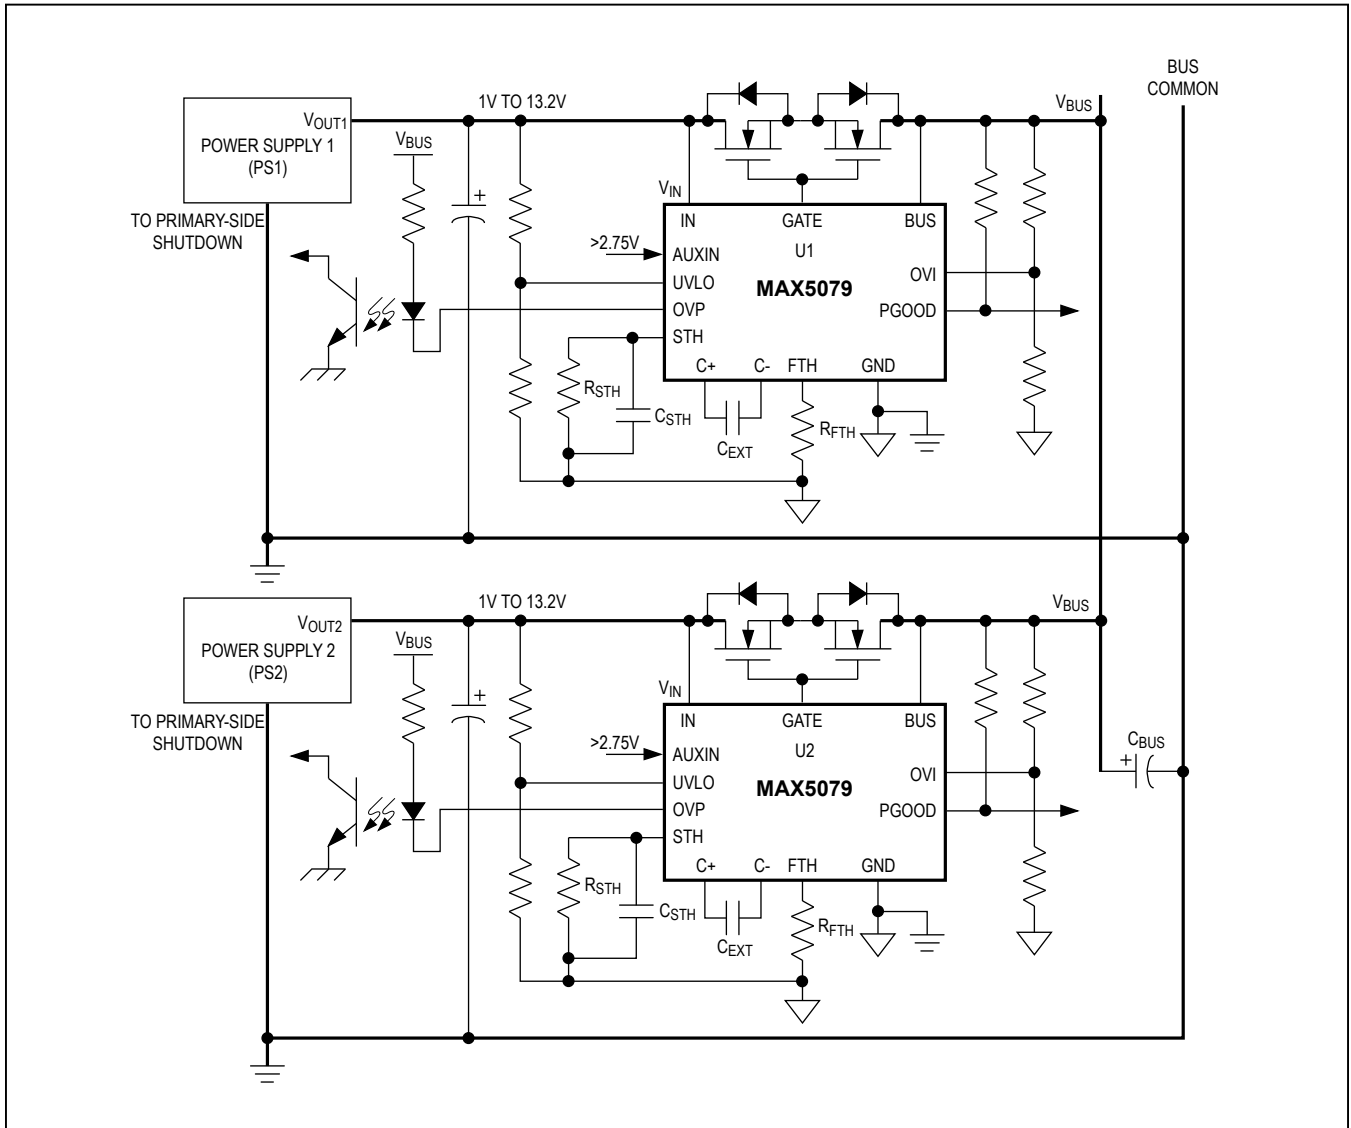

Figure 2. Parallel Supplies with Back-to-Back MOSFET
- Use additional n-channel MOSFETs in series with N1, N2, and N3 in the reverse direction to isolate the power supplies from a shorted bus (Figure 2). When power is turned on with a shorted bus, V_{IN} (U1, U2, U3) increases and V_{UVLO} rises above the UVLO threshold. The MAX5079's GATE outputs start charging the back-to-back ORing MOSFET gates. The short-circuit condition at BUS collapses V_{IN} (U1), V_{IN} (U2), and V_{IN} (U3) sending the MAX5079s into undervoltage lockout. This turns off the MAX5079s entirely, including discharging of the charge-pump storage capacitors. The IN voltages come back up again crossing UVLO (UVLO has 60mV hysteresis). A new cycle starts and the time required to charge the chargepump capacitor and the turn-on time of the device serves as a dead time. However, the dead time may not be enough to reduce the dissipation in the MOSFETs to an acceptable level. We advise in keeping the short-circuit current low and providing hiccup current-limit protection to the power supplies (PS1, PS2, and PS3).